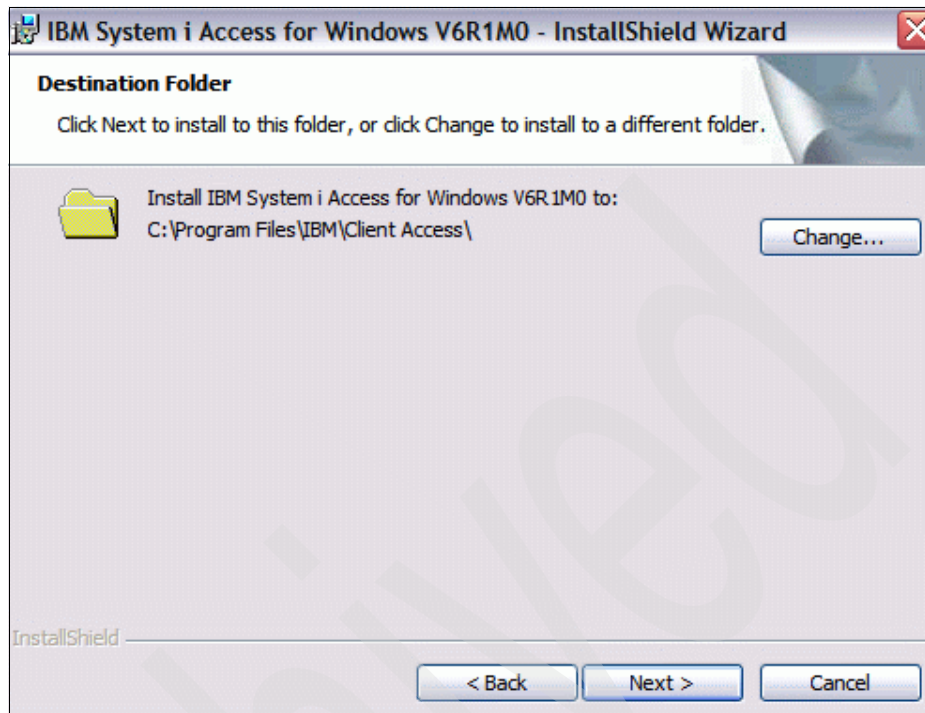

Figure 5-12 IBM System i Access for Windows install location
4. IBM System i Access for Windows can be installed at a different location, as shown in Figure 5-12 on page 229.